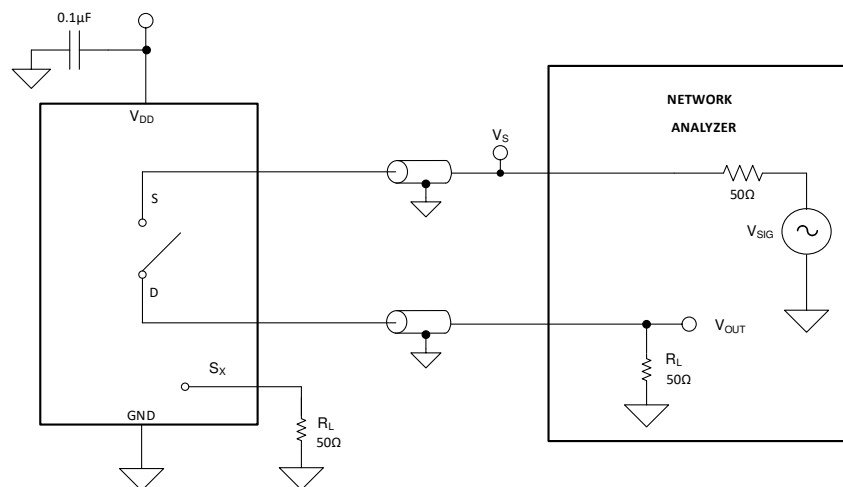

Figure 14. Off Isolation Measurement Setup
Off isolation is defined as the ratio of the signal at the drain pin (D) of the device when a signal is applied to the source pin ( $S_x$ ) of an off-channel. Figure 14 shows the setup used to measure, and the equation used to calculate off isolation.